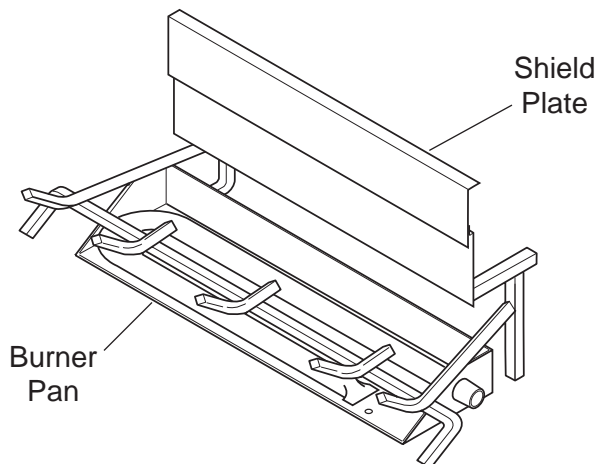

Figure 129 - Sliding Shield Plate Down Back of Burner Pan
1. Slide shield plate down back of burner pan. *See Figure 129.*